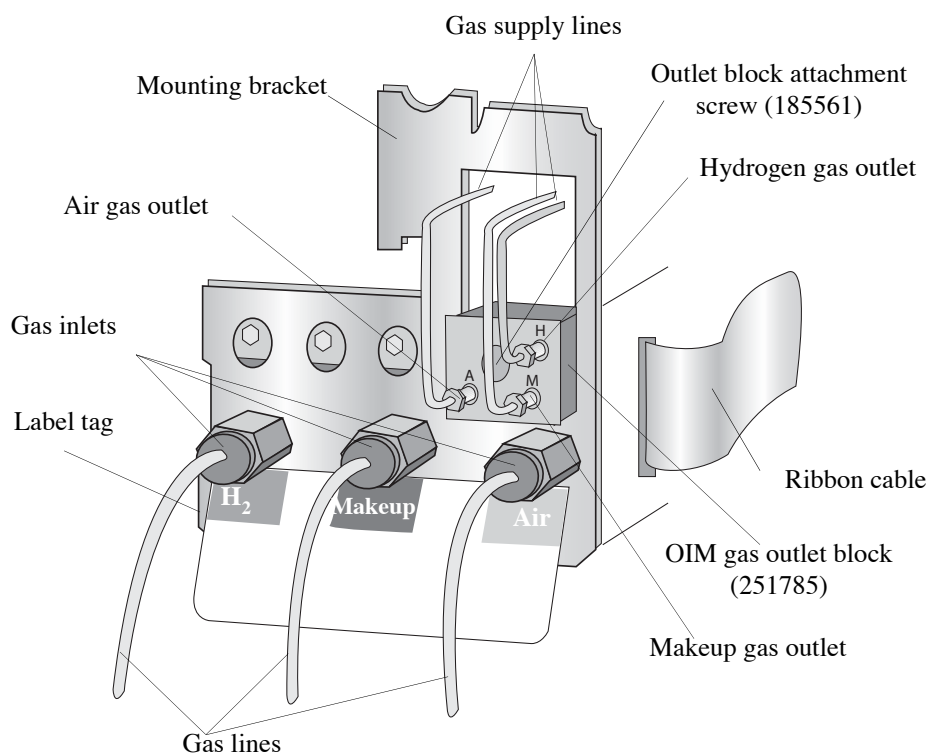

Figure 3.17. OIM gas flow module configured for PID/XSD or PID/FID
6. Connect the appropriate gas supplies to the inlets using $\frac{1}{8}$ " brass nuts and ferrules (Figure 3.17).
2. Remove the Agilent gas outlet block attached to the front upper right corner of the OIM pressure control manifold by unscrewing the Torx T-20 outlet block attachment screw (PN 185561). Leave the three O-rings in place (Figure 3.17).